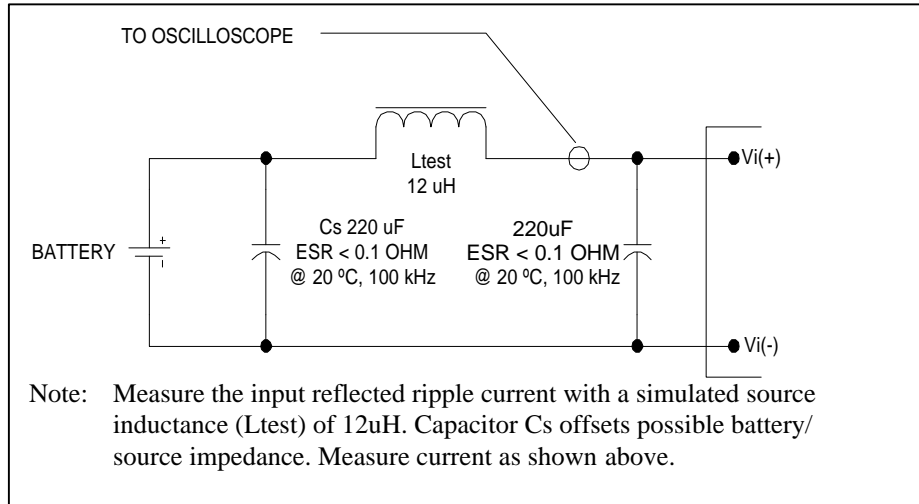

Figure 1. Input Reflected Ripple Current Measurement Setup.
- See Figure 1 for the Input Reflected Ripple Current test measurement setup.